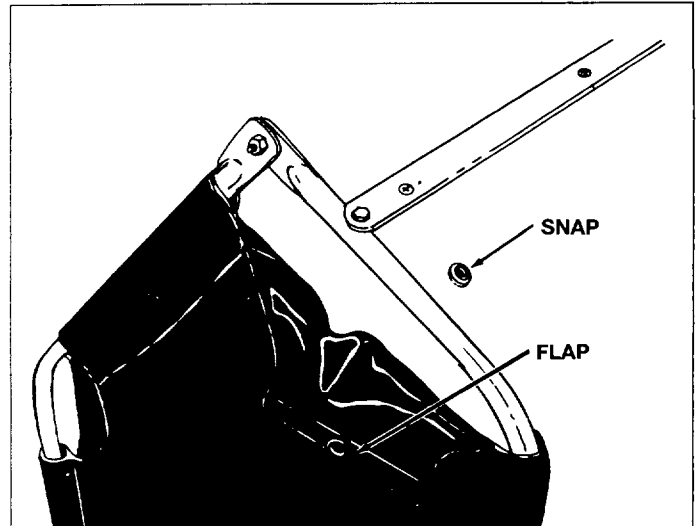

Fig. 20
- Secure the bag corners over lower hopper tube by snapping the flap to bag bottom on both sides. See figure 20.